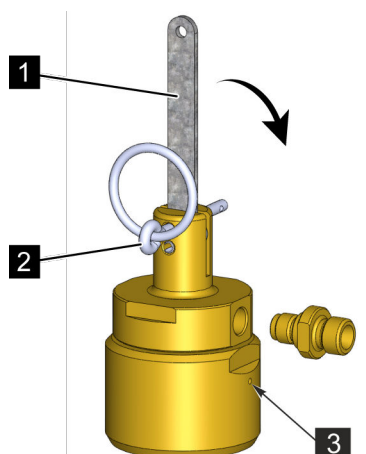

Fig. 29: Activating
3. ➤ Pull the safety pin (Fig. 29/2) out of the pneumatic/manual release device on the “pilot cylinder” extinguishing agent container.
4. ➤ *i* When the release lever is operated, the upper valve chamber in the valve is vented. Pressurized gas flows through it through a pressure relief hole in the cap nut of the release device (Fig. 29/3).
5. ➤ Press the release lever (Fig. 29/1) of the pneumatic/manual release device as far as it will go clockwise or counterclockwise (Fig. 29/arrow) and hold it down for 5 s.